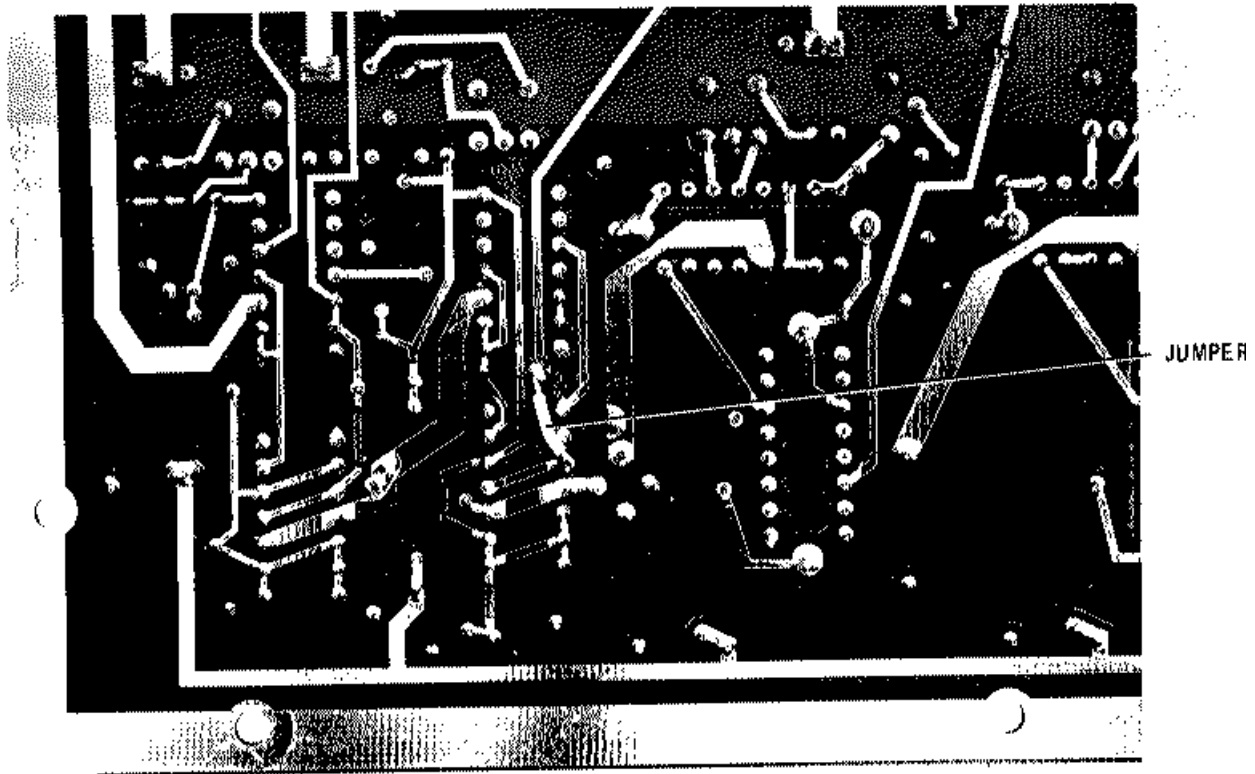

Figure 7-11. A10A2 RF Divider Assembly Modification
7-49. On instruments with serial number prefix 1313A and below, subharmonic rejection can be improved if the fourth RF divider is wired so that it is off when the RF output is taken from the third divider. Refer to Figure 7-11 and Service Sheet 11 and proceed as follows:
5. Solder a 1/2-inch length of insulated wire between pin 3 of U18 and the end of R16 (5.11 k Ω) that is nearest U18. Refer to Figure 7-11.